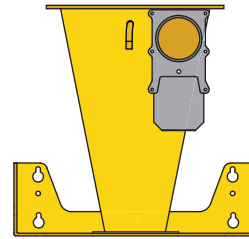

FIG. 10a
Align the Cyclone (E) so the inlet is facing forward [FIG. 10a].